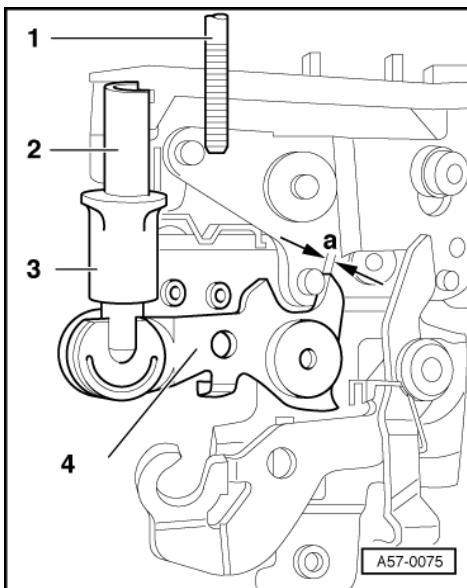

Fig.2 -> Adjusting play for locking lever
- Do not strain locking lever -4- on door lock -5- (max. play at locking lever 1 mm => Fig. 2).